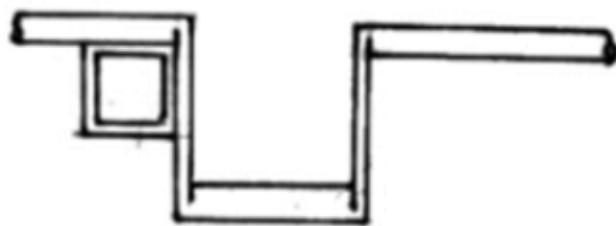

Figure 3
8. Figure 3 shows the innermost cam as it hit the innermost spreader beam and stopped the camshaft from further sliding outward.